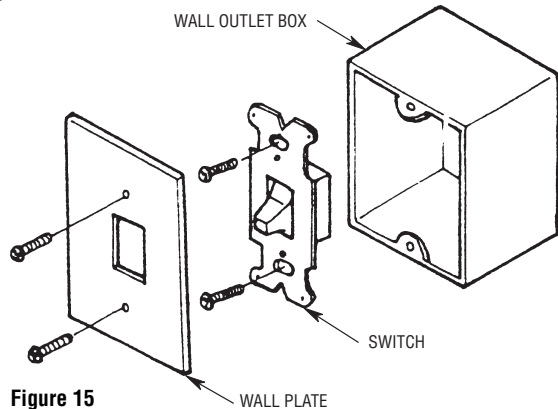

Figure 15
- 2. Disconnect wire from existing fan wall switch (Figure 15).
- 3. Slide the fan control to the OFF position (0).